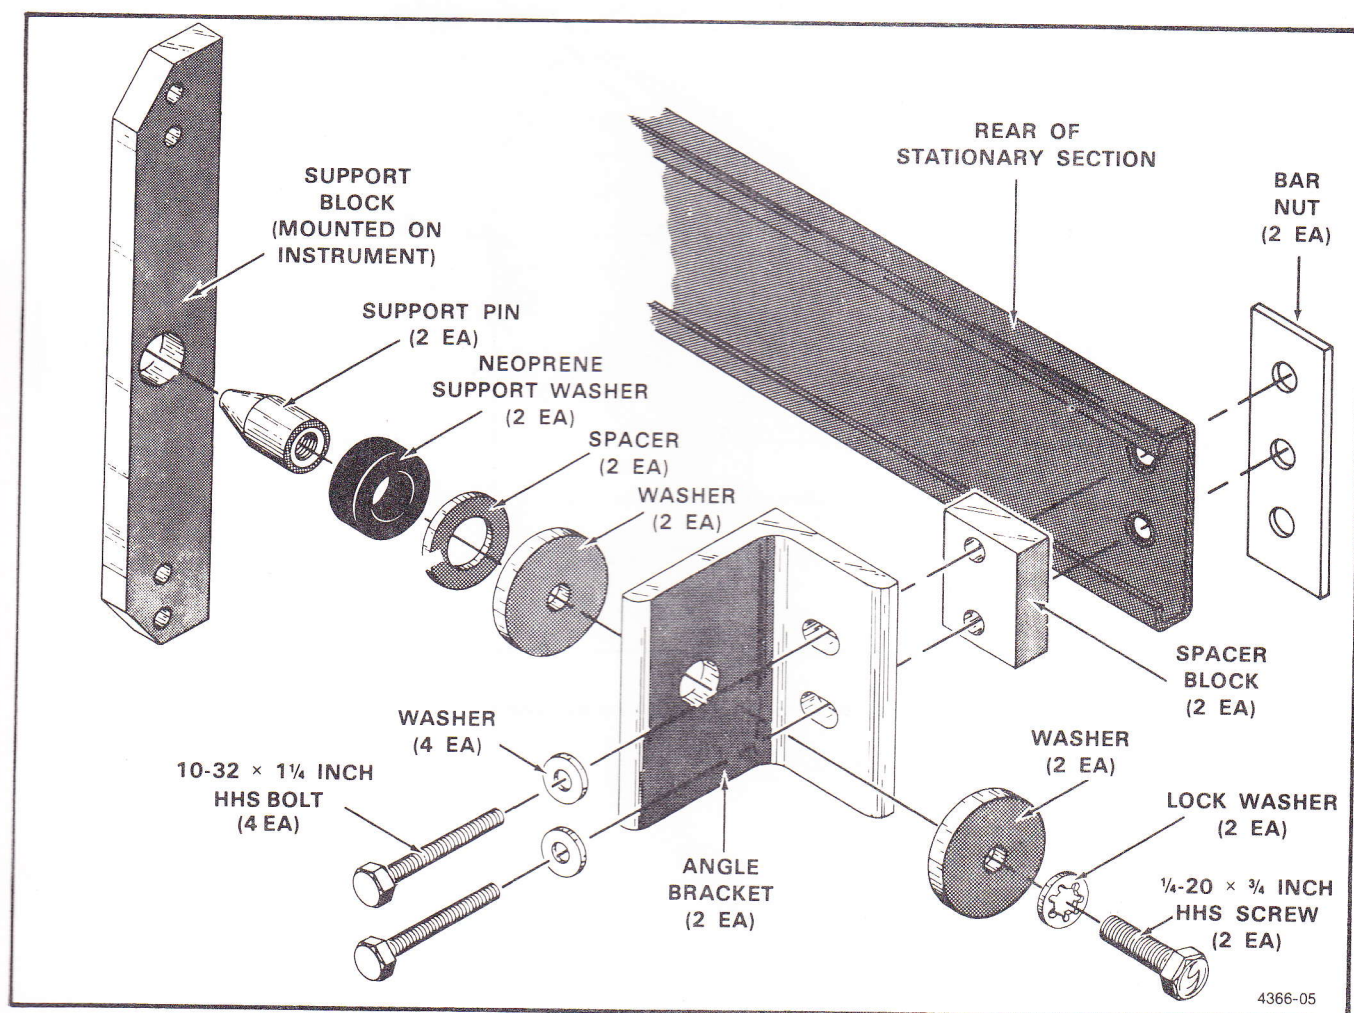

Figure 5. Rear support kit.
The holes in the spacer block (Figure 5) are not centered. The spacer blocks must be mounted with their narrow edges toward the front of the rack. This allows the instrument to slide fully into the rack.
3. Attach an angle bracket to each of the rear rails by inserting the mounting bolts through the angle brackets, spacer blocks, stationary sections of the slide-out tracks, and into the rear-support members of the rack cabinet, assembling the parts as shown in Figure 5. The bolts should be fully inserted and lightly seated, but not tightened at this time.
4. Attach the support pins to the angle brackets as shown in Figure 5, temporarily leaving out the spacers between the neoprene support washers and flat washers.